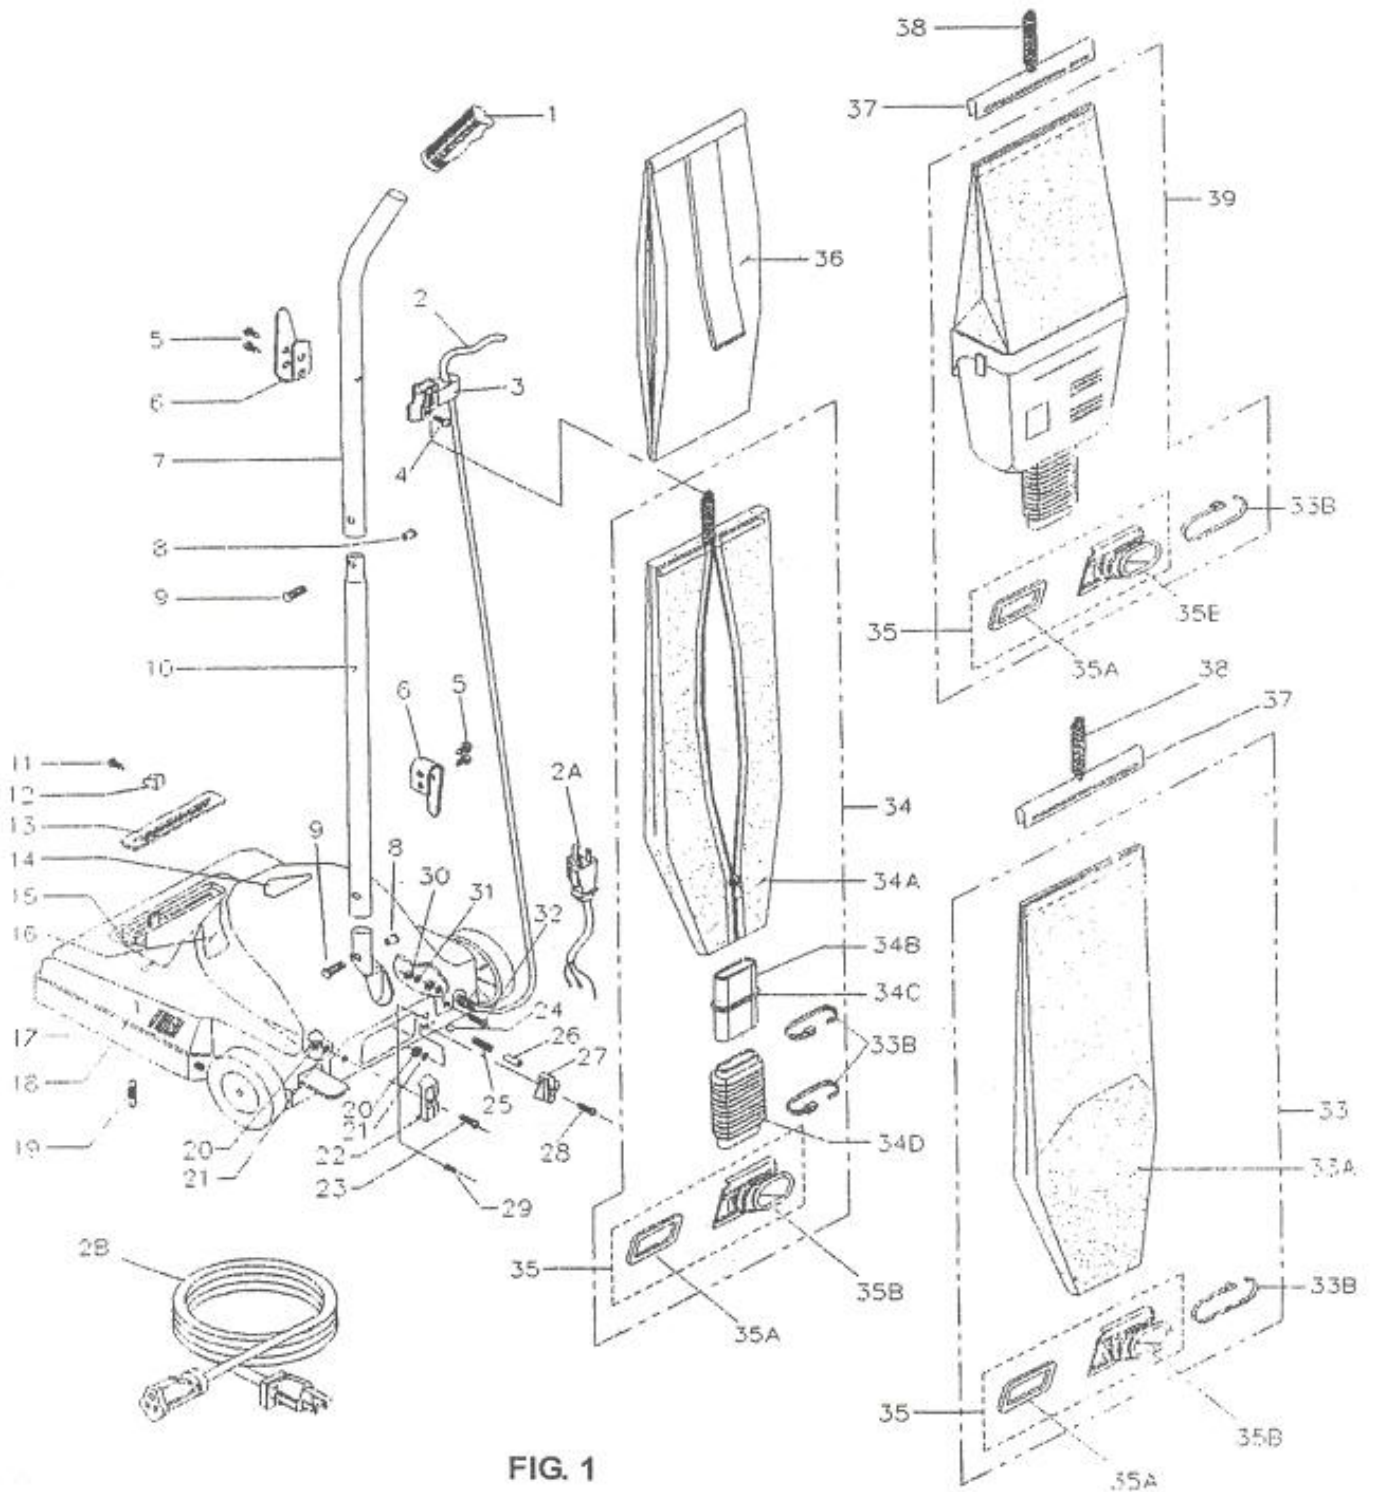

FIG. 1
7.- REMOVER LA CUBIERTA (18-E), FIG.1 Y 2
13.- REEMPLAZO DEL ENSAMBLE CABLE 3" (2A-E), FIG. 1 Y 2